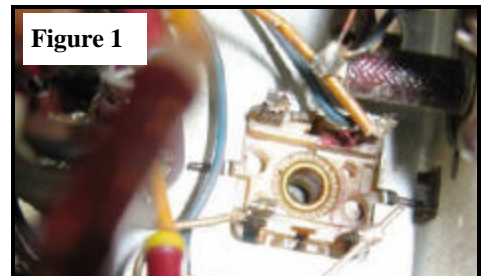

Figure 1
1. Photograph or make a sketch of the IF connections. Mark a reference point on the base of the IF can so it can be reinstalled in the proper orientation. (often one contact has a spot of red paint). Unsolder the connections. (Figure 1)